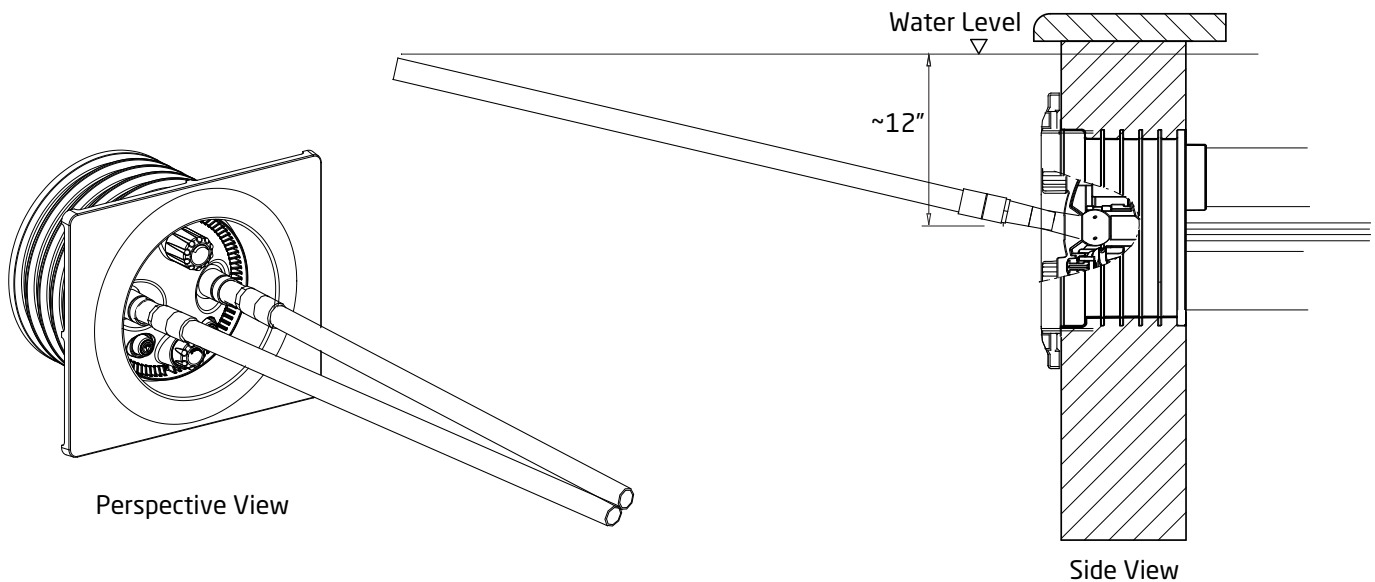

Figure 4
3. Once that is complete, bring the blue nozzle tool up to where the end of the nozzle tool breaks the surface of the water. Then bring the two nozzles tools together to meet. (See Figure 4)